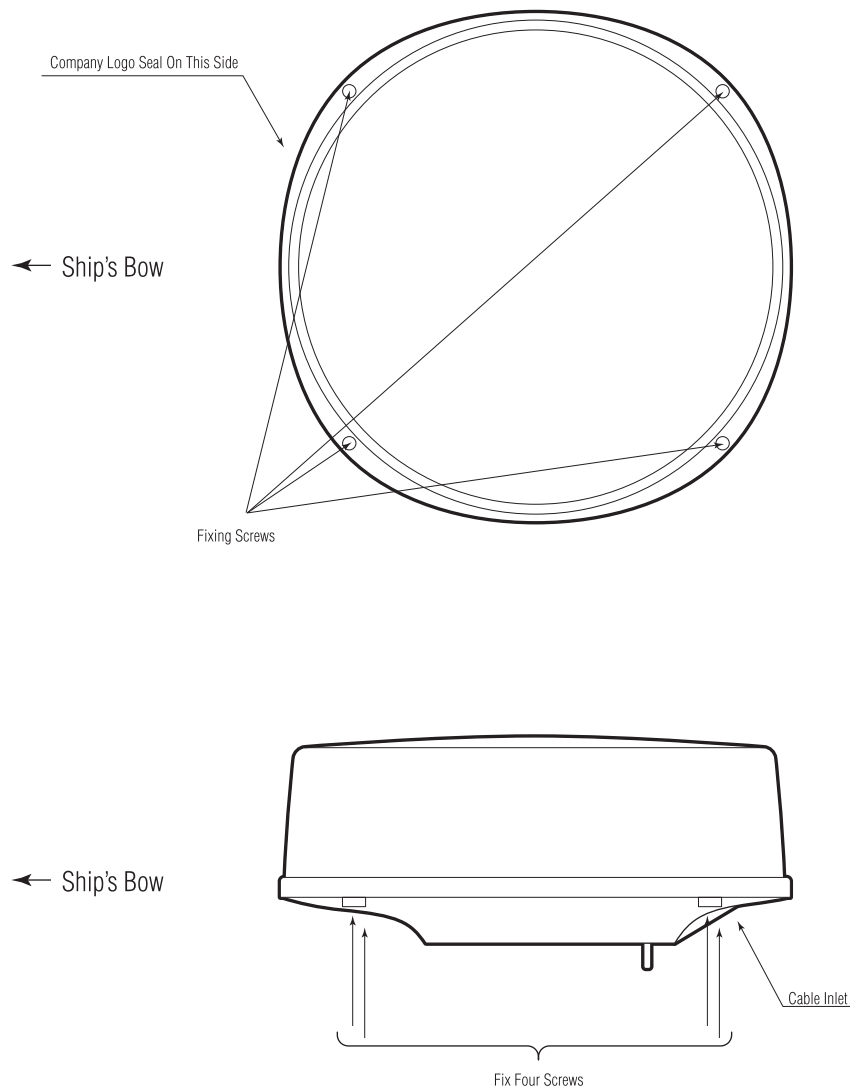

Figure 2.10 Fitting the cover (Radome antenna)
- 7) Replace the upper part of the radome, being careful not to bump it against the antenna. Make sure that the cover is positioned in the correct direction as shown in Figure 2.10. The upper and lower parts of the radome each have alignment markings indicating screw positions.